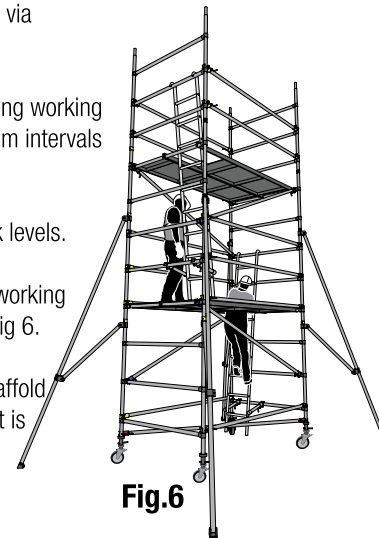

Fig.6
17. Tower is now complete with top working platform at 4m height, as shown in Fig 6.